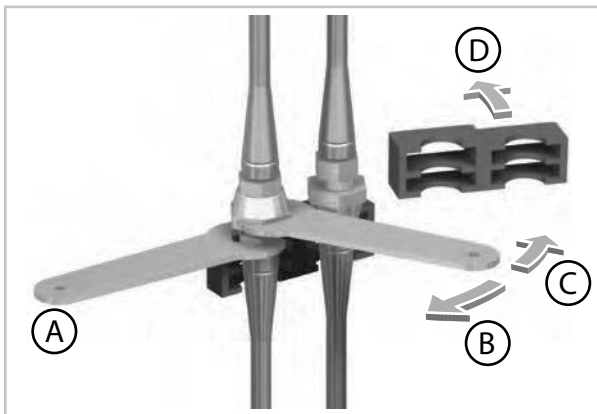

Fig. 14: Unscrew the left-hand union nut
9. ➤ Unscrew the left-hand union nut with the size 24 open-ended spanner provided. In doing so, use the second size 21 open-ended spanner to hold the lower coupling section still (Fig. 14).